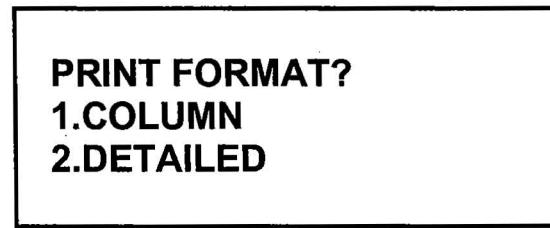

Figure 14-9. Print Transformer Test Results Format Menu
- b. Origin:** After test results are printed by the thermal printer or the user selects "NO" from the "Print Test Results" screen (Figure 14-9).